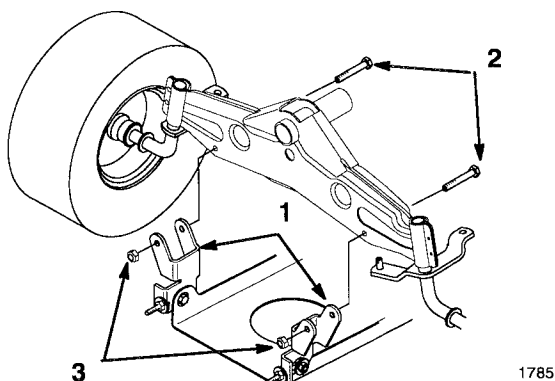

Figure 40
8. Remove the bolts and locknuts and pull the two mower pivot mount brackets down from the front axle (Fig. 40).